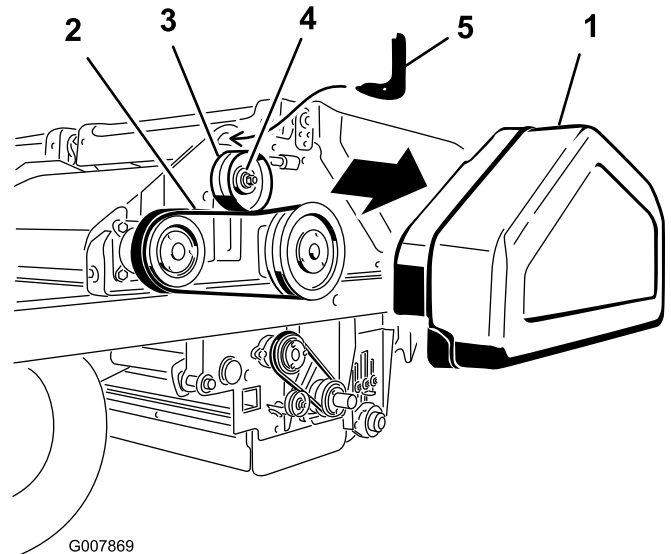

Figure 59
1. Remove the belt cover (Figure 59).
2. Loosen the nut on the idler pulley (Figure 59).
3. Insert the hook end of belt tensioning tool into the hole above the idle pulley (Figure 59). Rest the curved bottom of the tool on the idler pulley.
4. Insert the drive of a 1/2 inch torque wrench into the hole in the belt tensioning tool (Figure 59).
5. Rotate the tool toward you until the torque of 50 inch-pounds is achieved, then, while holding the torque, tighten the idler pulley nut (Figure 59).